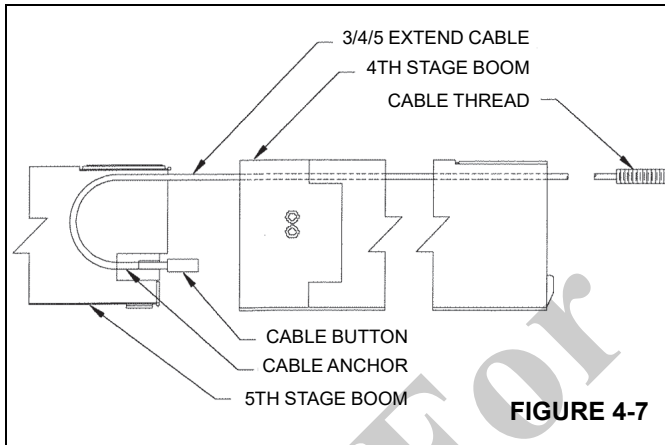

FIGURE 4-7
1. Install 5th stage boom (5) into 4th stage boom (4) approximately five feet. Figure 4-7.